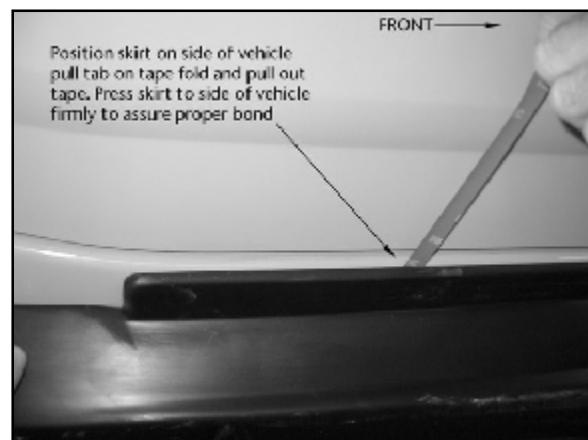

Fig 2
4. Place the part in its correct position, pull the red backing from the tape 90 degrees from the edge of the part as shown in Fig 2 and stick the part by applying pressure where the tape is.